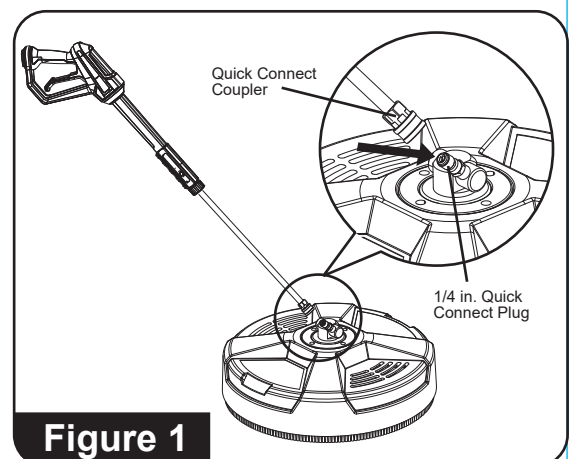

Figure 1
2. Attach the surface cleaner's 1/4 in. quick connect plug into the end of the pressure washer wand (wand not included). (See Figure 1)